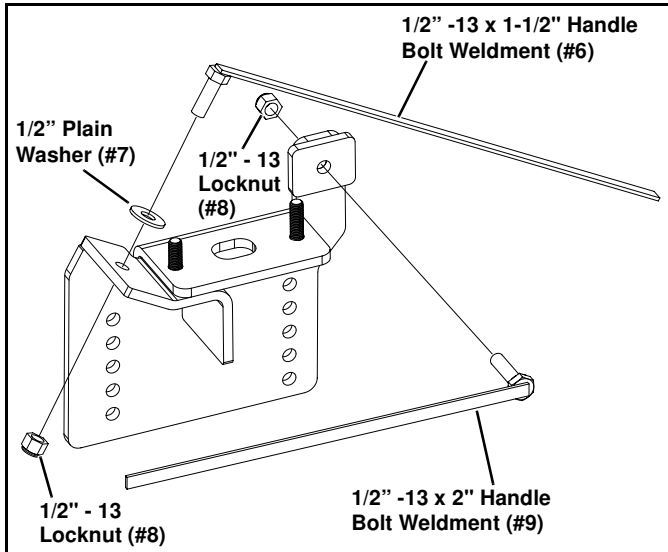

Figure 2
- Align a 1/2" Plain Washer (#7) to the front drilled hole, but between the truck frame and item 2. Insert a 1/2"-13 x 1-1/2" Handle Bolt Weldment (#6) into the front drilled hole by sticking it through the large slot in item 2 and the truck frame. Secure with a 1/2"-13 Locknut (#8) (See Figure 2).
- Insert a 1/2"-13 x 2" Handle Bolt Weldment (#9) into the rear drilled hole by sticking it through the large slot in item 2 and the truck frame. Secure with a 1/2"-13 Locknut (#8) (See Figure 2).